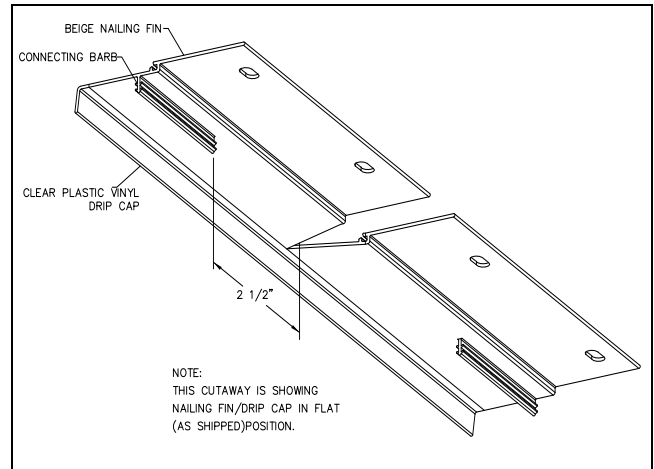

Figure 14
6. The bottom connecting barb of nailing fin/drip cap must be cut away at each mullion block approximately 2 1/2" on each side of notch removed. See Figure 14.